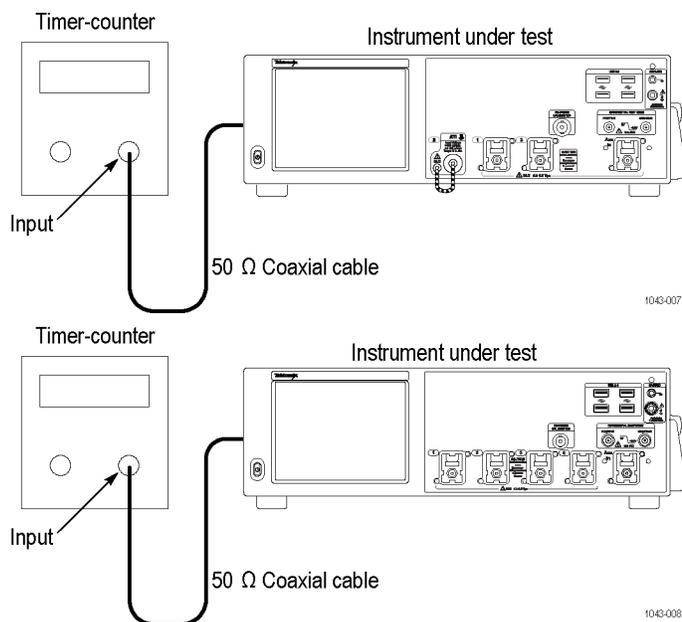

Figure 24: Timebase and delay time initial test hookup
- a. Hook up the test-signal source: Connect the input of the timer-counter to **Ref Clock Out** . (See Figure 24 on page 157.)